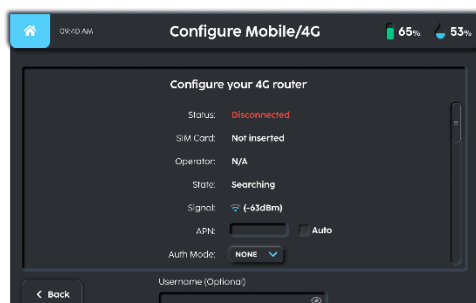

Fig 8
1. The operator may configure mobile/4G settings (Fig 8)